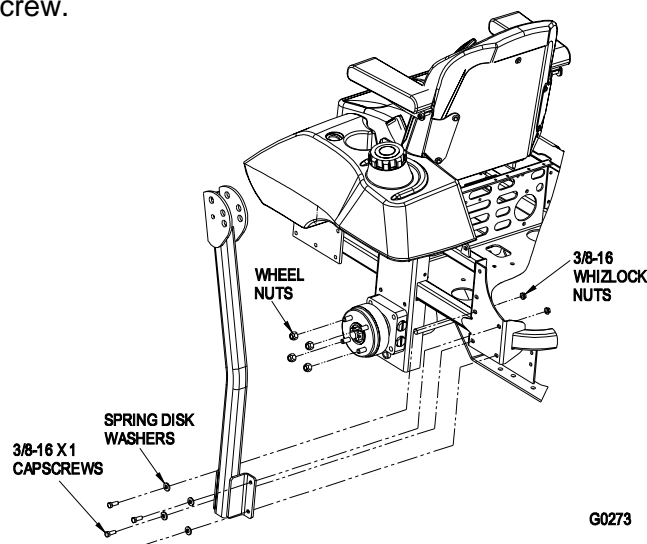

FIGURE 2
- Align lower roll bar tubes along the rear engine frame as shown in Figure 2.
- LOOSELY** install the lower roll bar hardware (four 3/8-16 x 1 capscrews, four spring disk washers and four 3/8-16 whizlock nuts) from the bolt bag to the tubes on each side as shown in Figure 2.